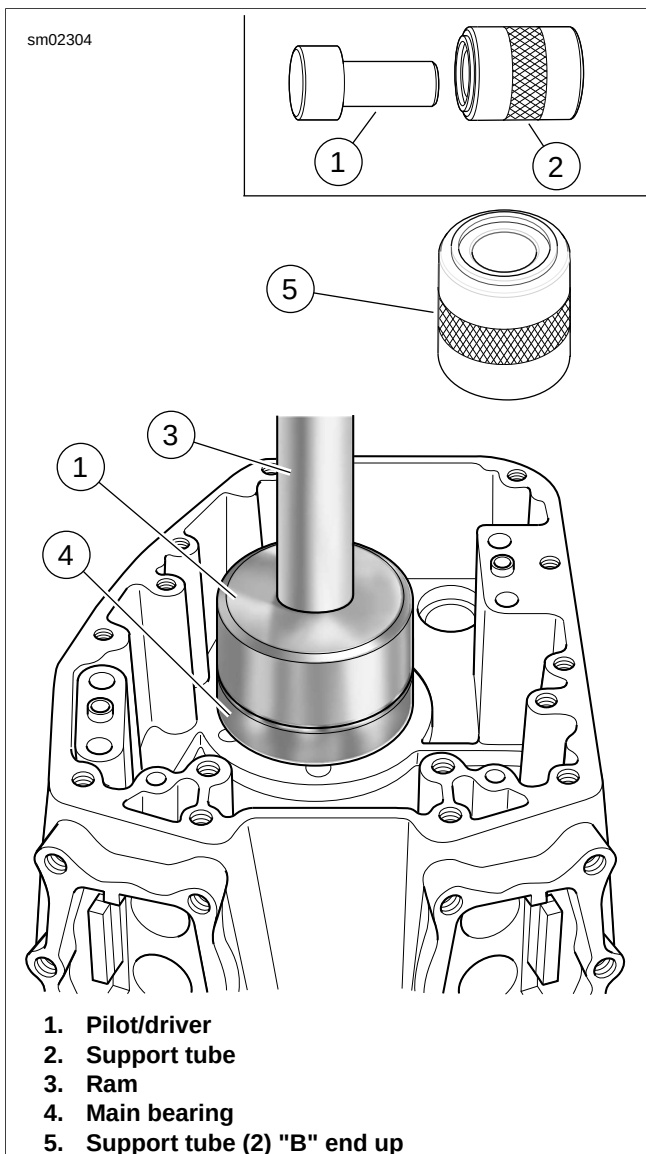

Figure 3-125. Right Main Bearing Installation
1. See Figure 3-125. Obtain CRANKCASE BEARING REMOVER/INSTALLER (Part No. B-45655) and CRANKCASE BEARING REMOVER/INSTALLER BASE (Part No. HD-42720-5).
2. Obtain **new** main bearing (4). Spread a thin film of clean engine oil on O.D. of **new** bearing.
3. Turn support tube (2) over so that the "B" end is up. The sides of the support tube are stamped "A" and "B" to ensure proper orientation.
6. Slide pilot/driver (1) through bearing into support tube.
7. Center pilot/driver under ram (3) of press. Apply pressure to pilot/driver until resistance is felt and bearing is bottomed on the support tube.